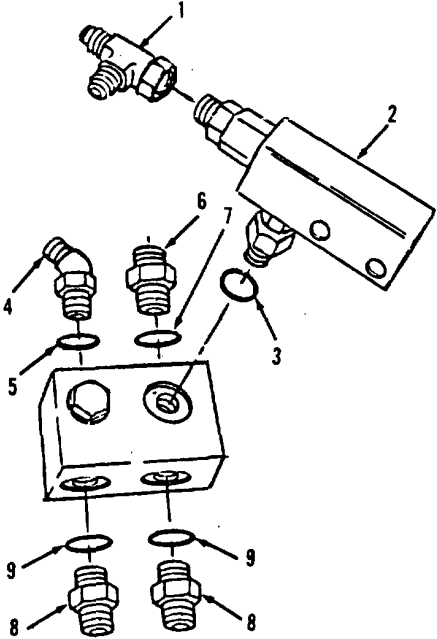
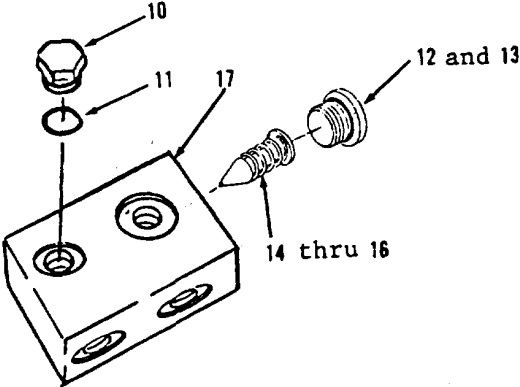

Figure 10-101.
Figure 10-102.
- 1. Remove tee (1) from valve (2, Figure 10-101).
- 2. Remove valve (2) and preformed packing (3) from valve (17). Discard preformed packing (3).
- 3. Remove elbow (4) and preformed packing (5). Discard preformed packing (5).
- 4. Remove connector (6) and preformed packing (7). Discard preformed packing (7).
- 5. Remove two connectors (8) and preformed packings (9). Discard preformed packings (9).
- 6. Remove plug (10) and preformed packing (11) from valve (17, Figure 10-102). Discard preformed packing (11).
- 7. Remove items 12 and 13 as an assembly and items 14 thru 16 as an assembly.